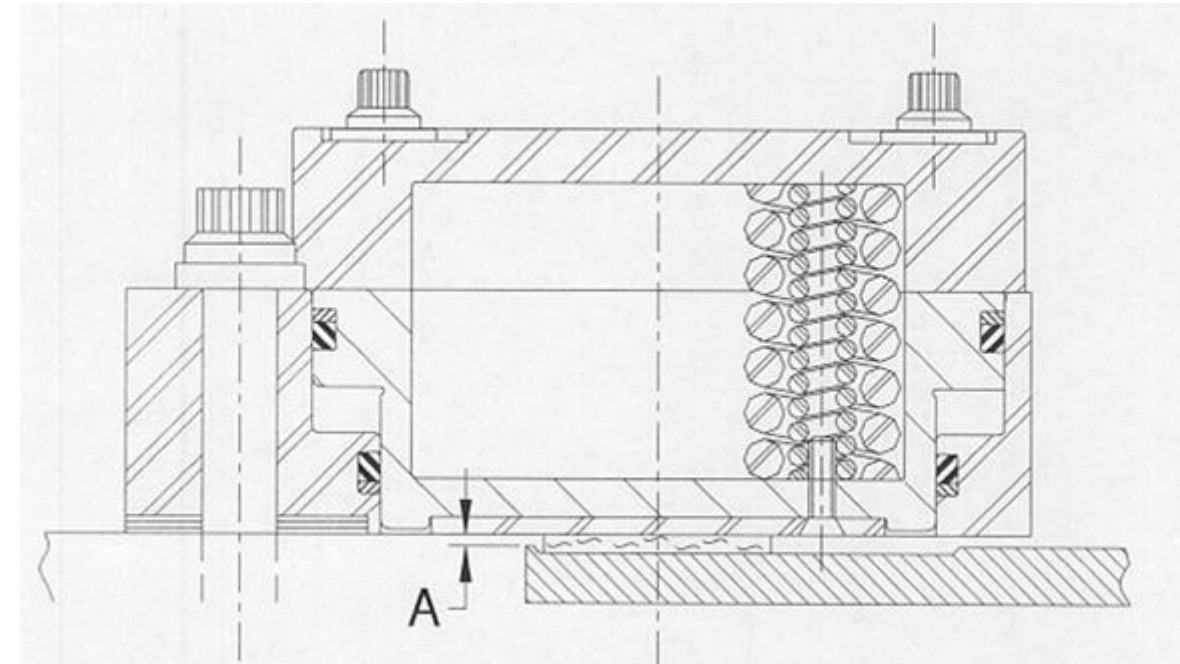

Figure 2
- 4.5.2 While the parking brake pressure is released, measure the distance between the disc outer edge and the lining carrier with a feeler gage. (See dimension "A" in Figure 2) Measure carefully being sure to include any rind which may exist at the O.D. of the disc. Also measure the disc thickness at the most worn surfaces.